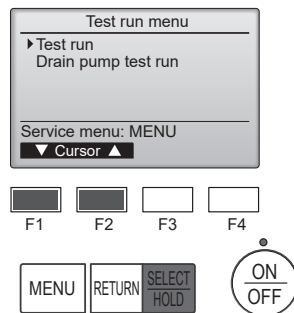

Fig. 7-4
- ④ Select "Test run" with the [F1] or [F2] button, and press the [SELECT/HOLD] button. (Fig. 7-4)